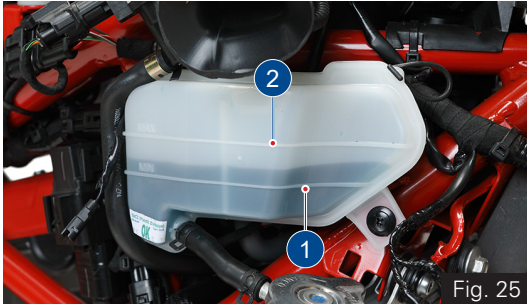

Fig. 25
- The coolant level should be between minimum and maximum level (1 & 2) on the tank (ref. Fig. 25).